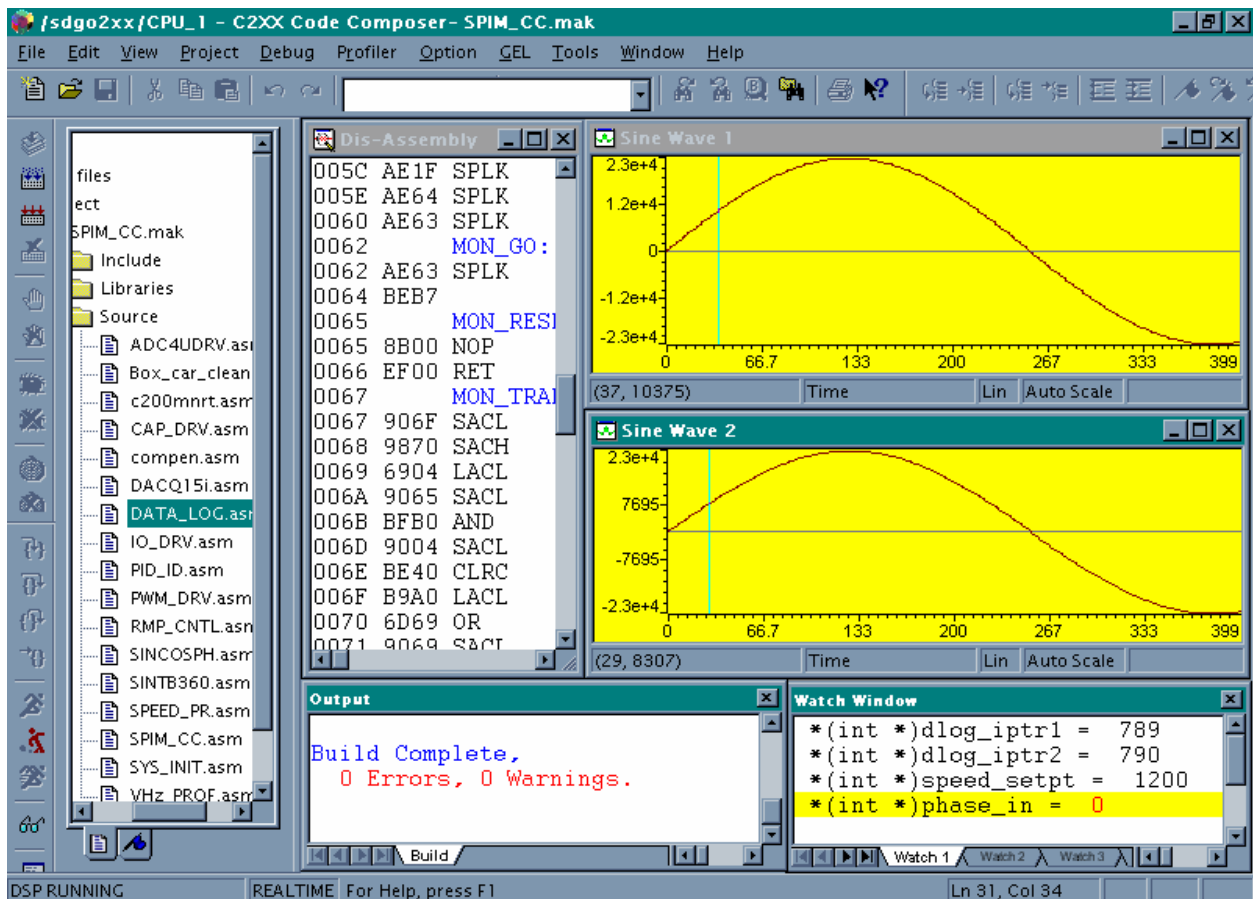

Figure 2 CC window for Phase 1 incremental build of ACI1-1
- Figure 2 shows the CC window with phase 1 running.